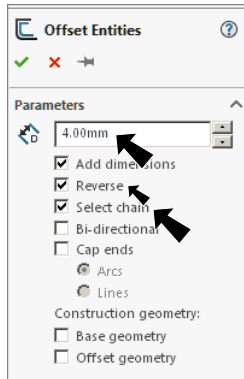

Fig. 86
Step 16. In the Offset Entities Property Manager set: under Parameters, **Fig. 86**